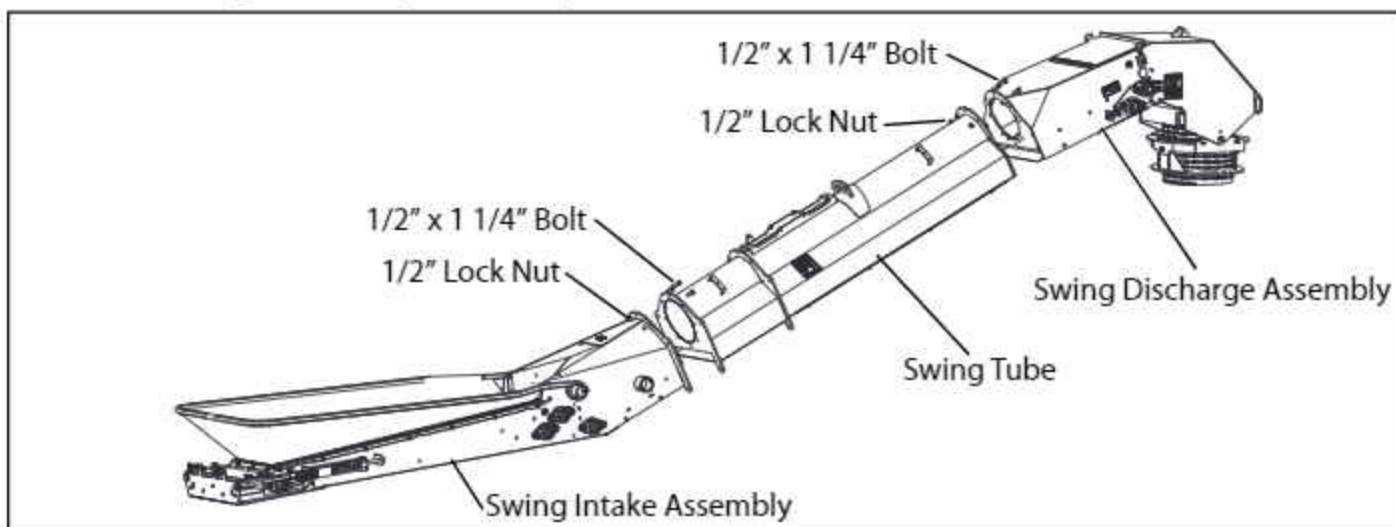

FIG. 3-70. Swing Tube Assembly
1. Attach the Swing Intake Assembly and the Swing Discharge Assembly to the Swing Tube using eight 1/2" x 1 1/4" bolts and lock nuts in each joint, as shown in Fig. 3-70. Make sure the tube joints are aligned and smooth, as shown in Fig. 3-71.